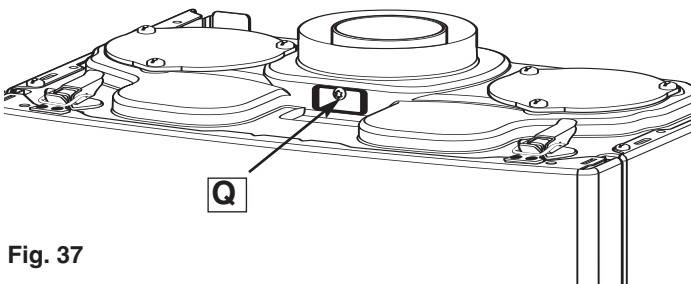

Fig. 37
2. Connect a combustion analyser to the test point on top of the boiler **Q** (Fig. 37);